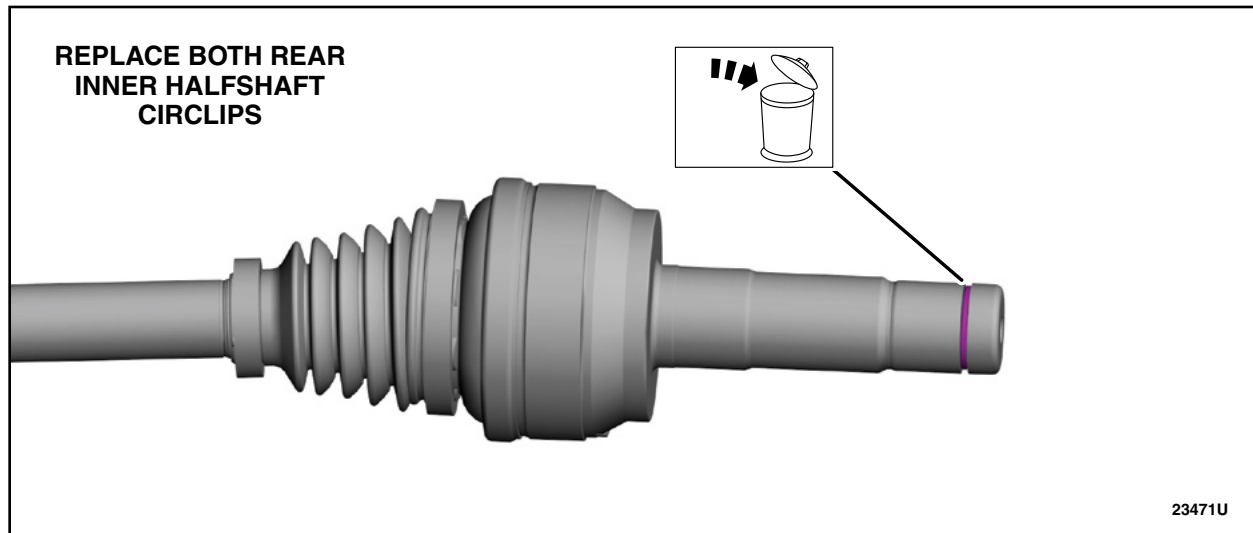

FIGURE 22
29. Remove and discard both rear inner halfshaft circlips. Then, install *new* circlips onto both rear inner halfshafts. See Figure 22. Then, proceed to the next Step.